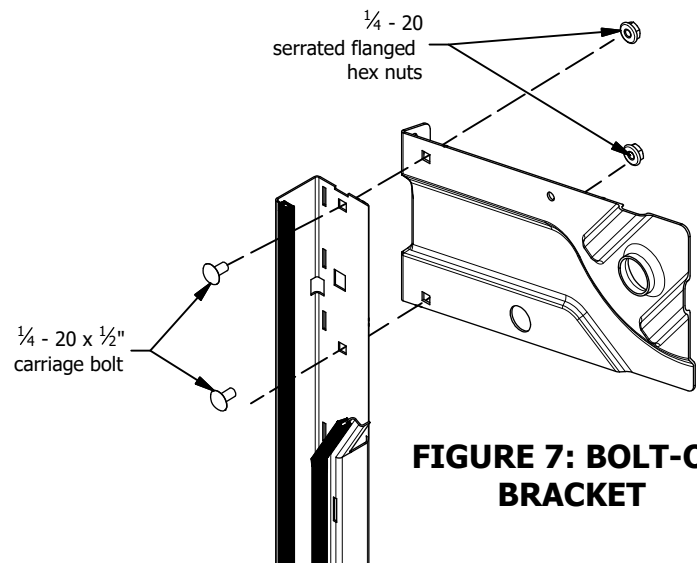

FIGURE 7: BOLT-ON BRACKET
- ▶ Attach door to bracket guides. Use two (2) each $\frac{1}{4}$ - 20 x $\frac{1}{2}$ " carriage bolts and $\frac{1}{4}$ - 20 serrated hex nuts per bracket. **(Figure 7)**